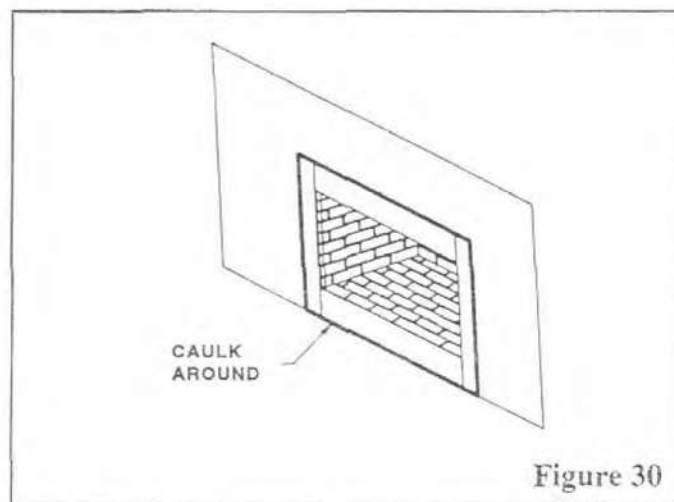

Figure 30
- 3) Carefully check and caulk all cracks around the fireplace where cold air could enter the room as illustrated in Figure 30. As a final caution, carefully caulk the finish trim around the front of the fireplace between the trim and the fireplace to prevent the entry of cold air and/or the escape of warm air.